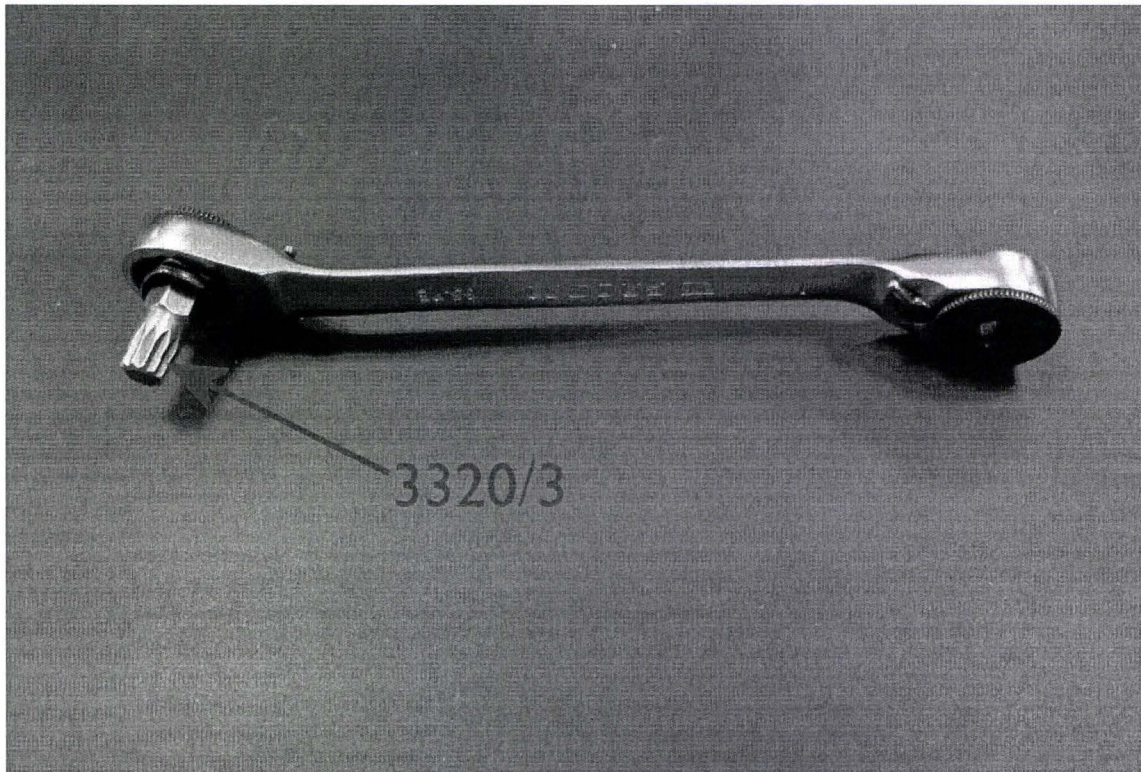

Figure 3
- Referring to Figure 3 use special tool 3320/3 within a suitable ratchet spanner (or similar) and remove the left hand rearmost boot hinge bolt and discard